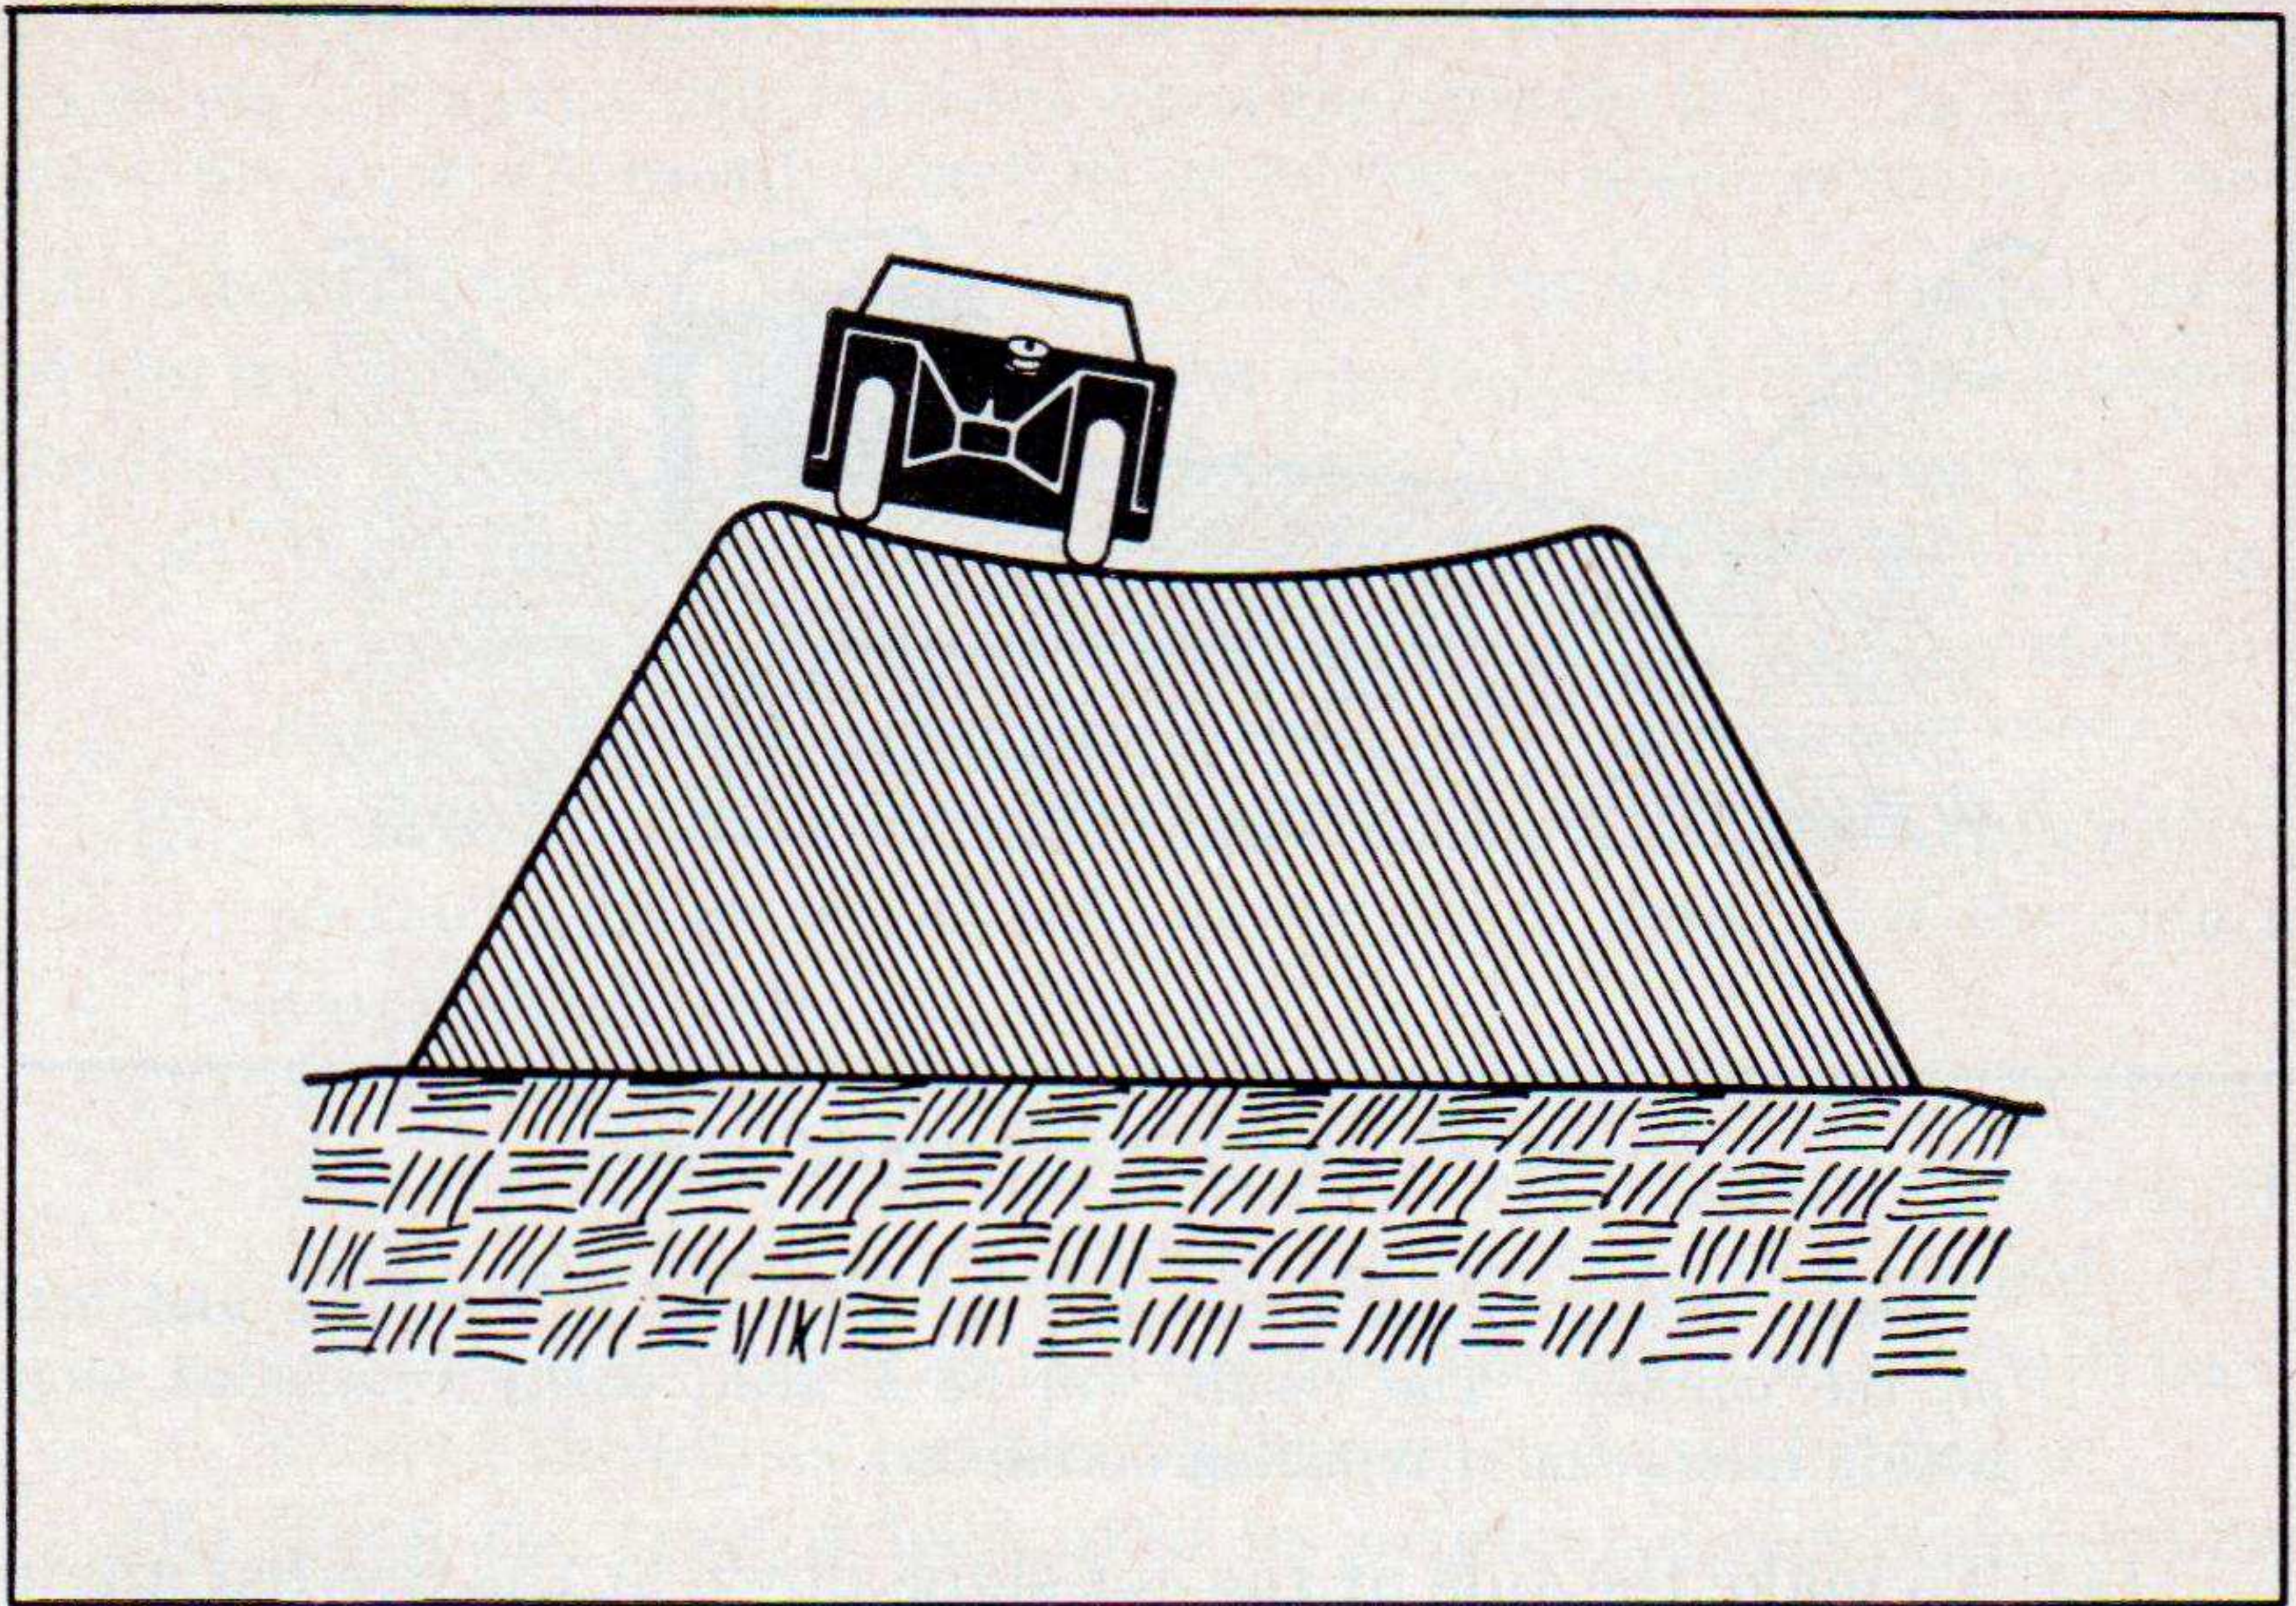

Figure 14. Building a fill.
k. Building a Fill (fig. 14). In building a fill, it is important to keep the outside or shoulders of the fill higher than the center. This prevents the scraper from sliding over the shoulder when dumping close to the edge. It also helps make the sides of the fill slope at the correct angle as the fill is built up. When the shoulders have reached grade level, the center can be filled quickly just before the final leveling and finishing.